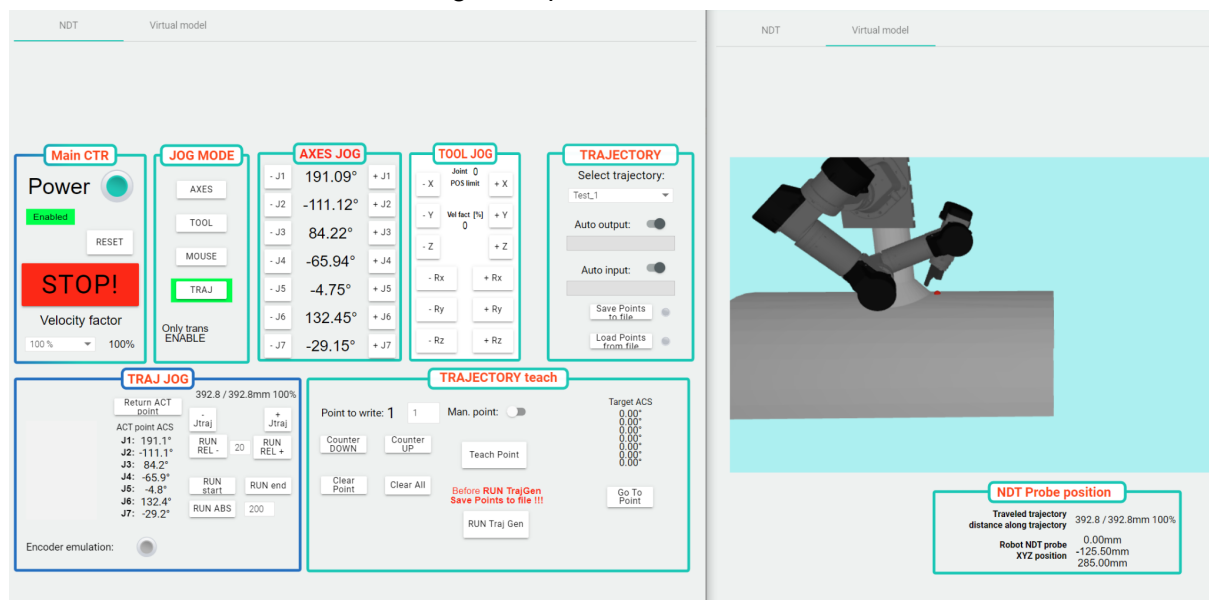

Fig. 2: Both panels (Control panel and Robot visualization panel)
1. Switch between *Control panel* (NDT) and *Robot visualization panel* (Virtual model), the website can be duplicated in the browser to see both of them, see Fig. 2.